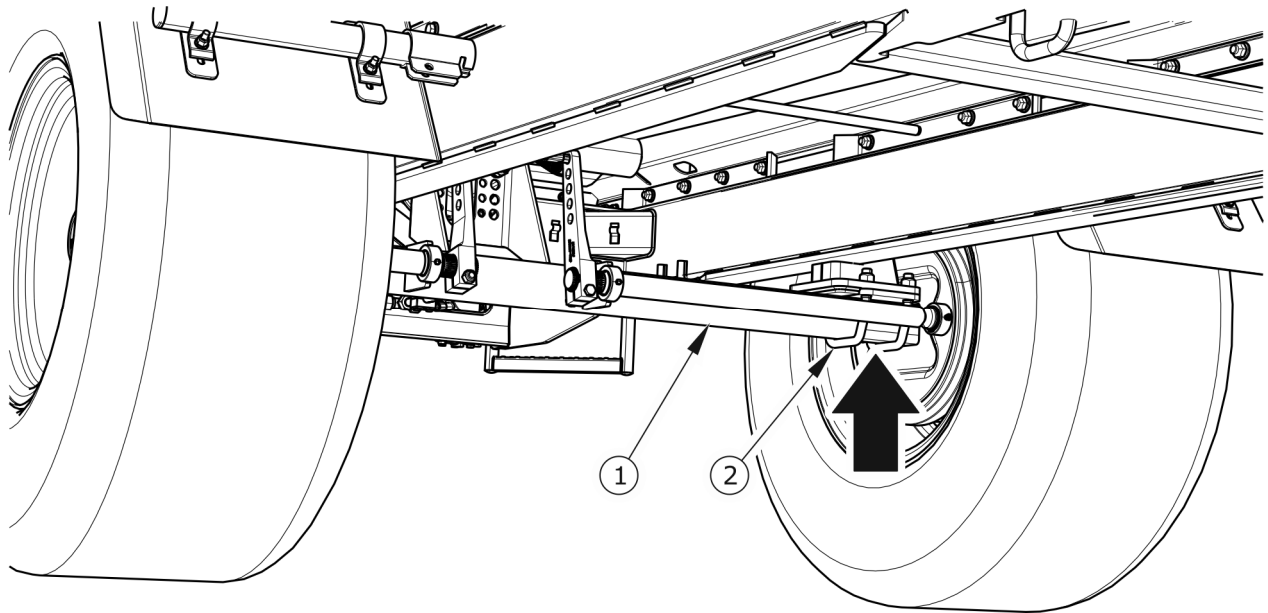

FIGURE 5.1 Jacking point
- ⇒ The jack should be placed in the spot indicated by the arrow in Figure 5.1. The jack must be adjusted to the spreader's curb weight.